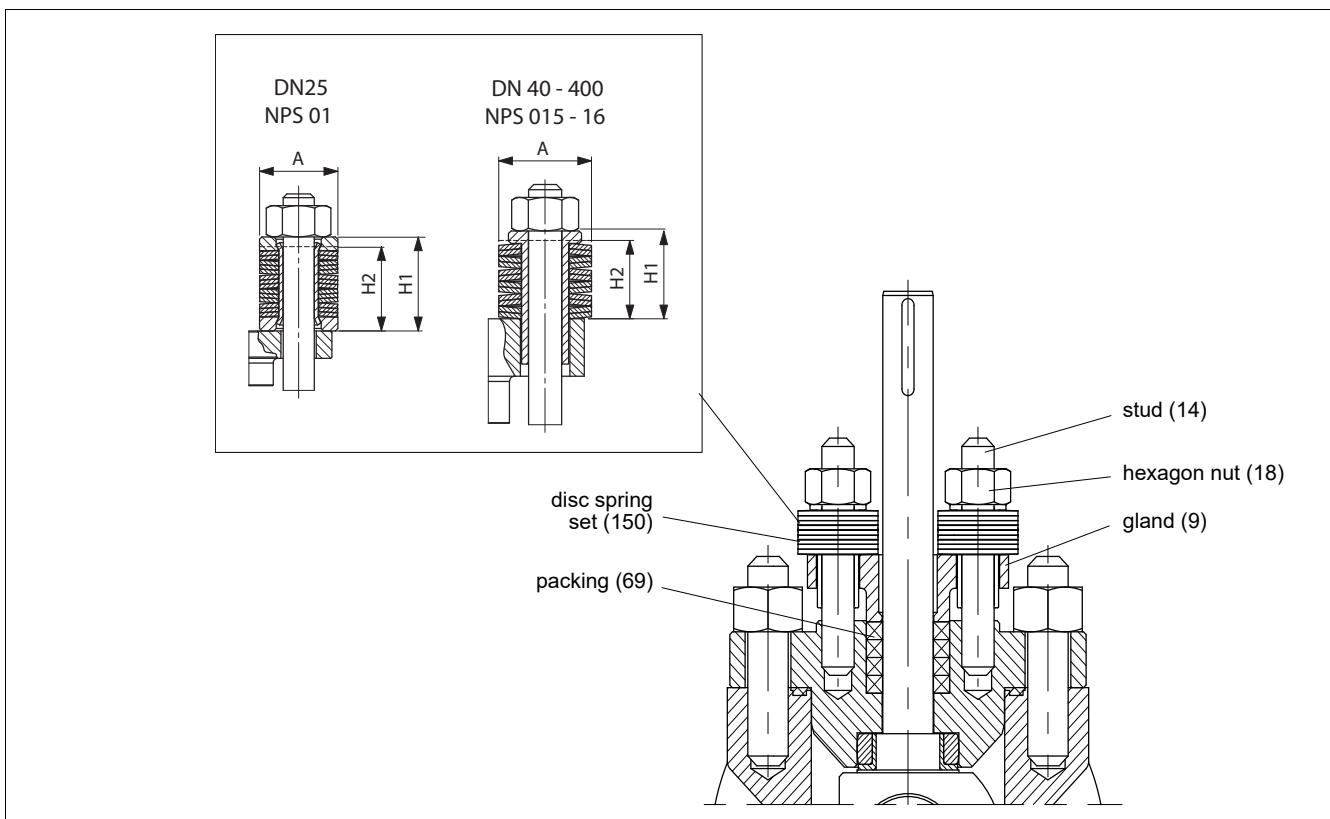

Fig. 9 Gland packing
- Pre-compress the packing rings (69) first tightening the gland nuts (18) to the torque T_t . See Fig. 9 and the value from Table 2.
- Retighten the nuts (18) to the torque T_t , see table 2.
- Check leakage when the valve is pressurized. If the leakage still occurs when the valve is pressurized, re-tighten the nuts (18) but don't exceed the torque T_t value in the Table 2 by 50 %.
- Pre-compress the packing rings (69) first tightening the disc springs (150) to the height H_2 . See Fig. 9 and the value from Table 2.
- Retighten the disc springs (150) to the height H_2 , see table 2.
- Check leakage when the valve is pressurized. If the leakage still occurs when the valve is pressurized, re-tighten the disc springs (150) but do not fully compress (totally flat) them.